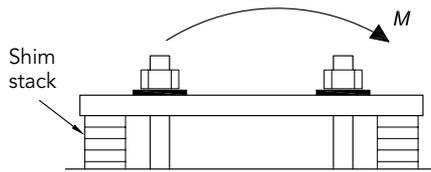

Fig. 1. Base plate with shim stacks subject to moment, M .
- 3 For the base plate with shim stacks shown in Figure 1, the lever arm is typically taken as which of the following to evaluate the overturning resistance of the column base during erection?